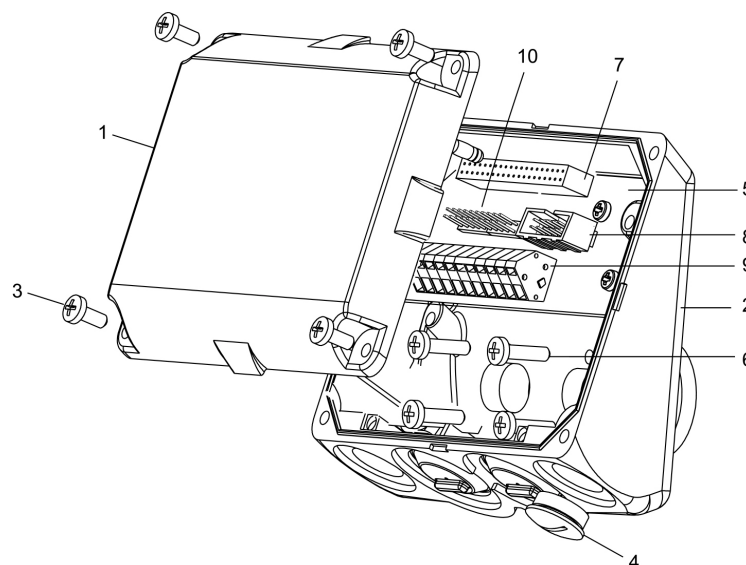
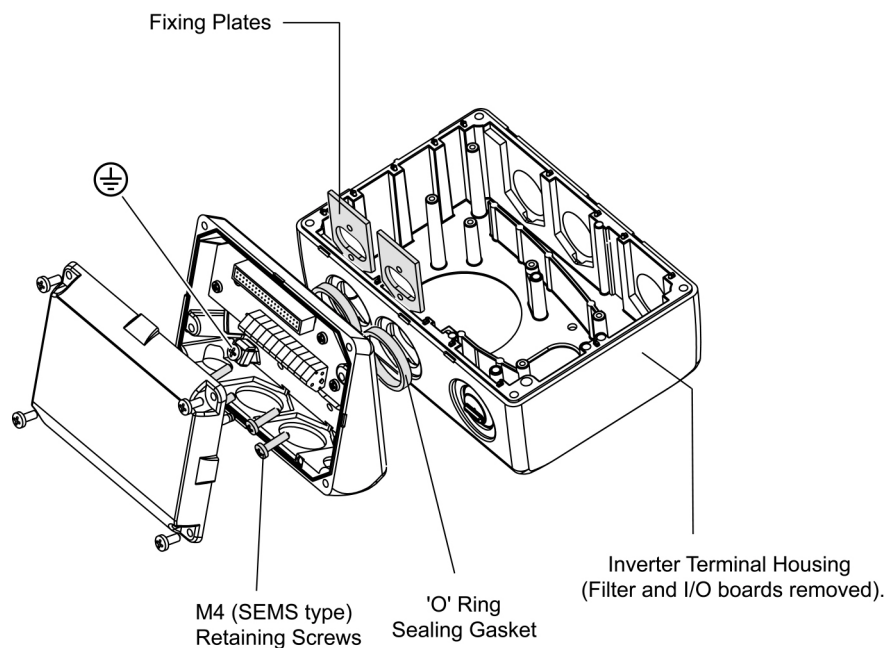
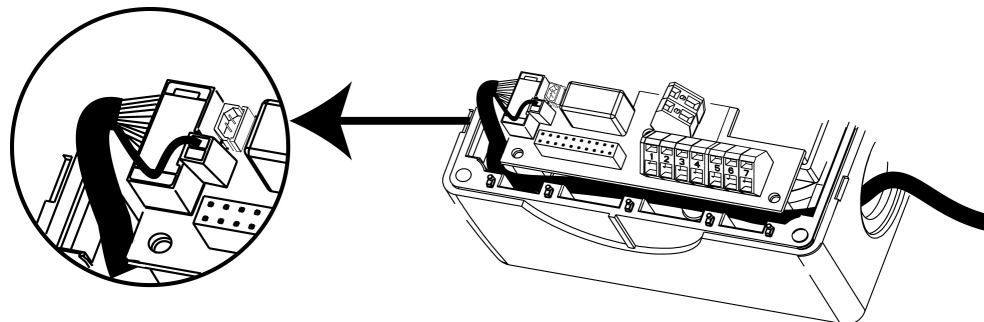

Figure 4-5 PROFIBUS Module Layout
Figure 4-6 PROFIBUS Module Fixing to Inverter
Figure 4-7 Fitting the Communications Cable
1. Unscrew the four cover retaining screws (3) (see Figure 4-5).
2. Carefully detach the module cover from the base (2).
3. Insert the O ring sealing gaskets (see Figure 4-6).
4. Align the Options case with the Fixing plates (See Figure 4-6).
5. Fasten the Options module base to the fixing plates using the retaining screws (6) (see Figure 4-5).
6. Feed the supplied comms link cable between the PROFIBUS comms socket (8) (see Figure 4-5) and the corresponding comms socket on the inverter I/O board (see Figure 4-7).
7. Terminate the comms link cable screening lead on the Inverter I/O board (see Figure 4-7).
10. Using the U-clamp and screw, connect the earth lead (attached to the fixing plate) to the earth stud (shown as  $\oplus$  in Figure 4-6) within the module housing.
18. Align the corresponding sub-assemblies so that the opposing sections of the in-line pcb connector (7) mate (see Figure 4-5).
19. Apply a gentle pressure until the lid (1) is firmly closed.
20. Secure the lid via retaining screws (3) at each corner.
The cable screening lead on the cable should be connected to the I/O board (see Figure 4-7).